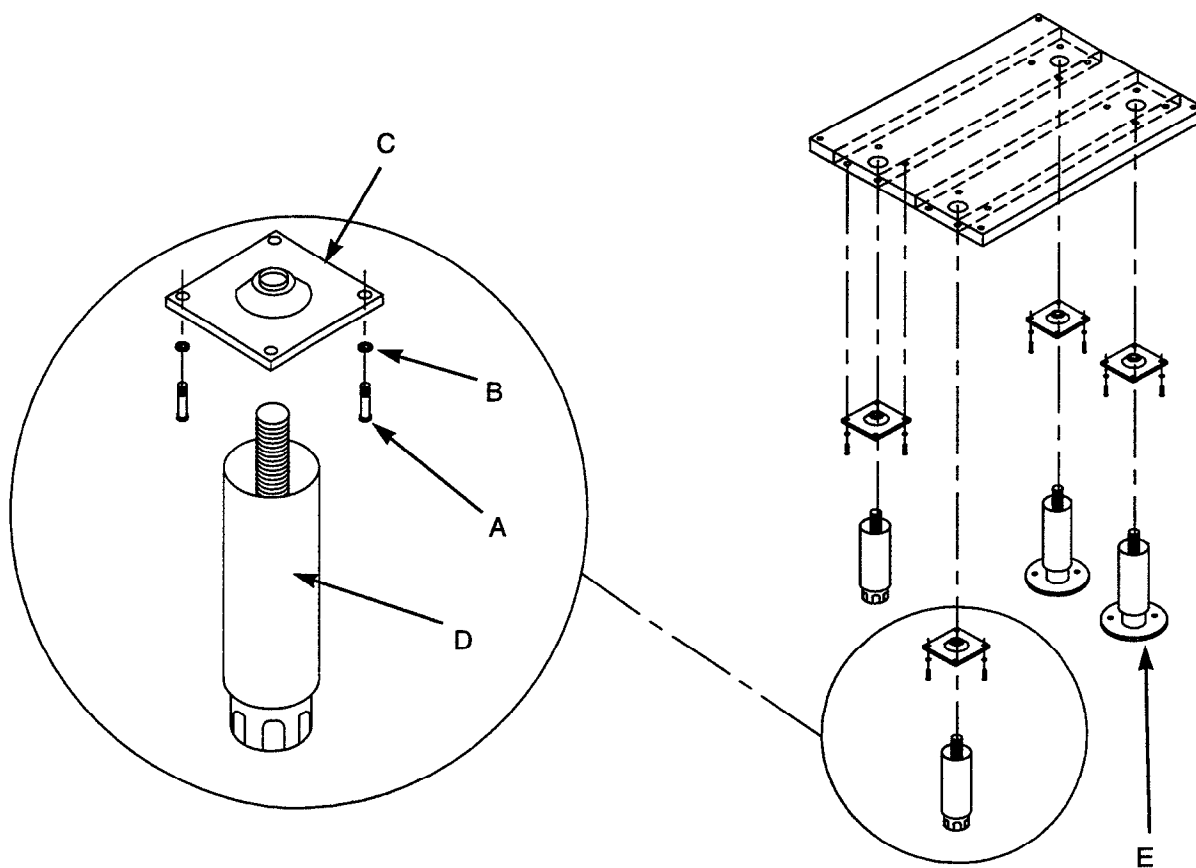

FIGURE 1
2. Shipped with every unit should be a leg package containing four legs. Two of which will have flanges for bolting them to the floor. These legs are to be installed on the rear of the unit. These are labeled (Item "E") in figure 1. The other adjustable legs are to be installed on the front of the unit.
3. Leg pads (Item "C") in figure 1 have already been installed on the bottom of the unit. To install legs simply screw legs into leg pads on bottom of unit.